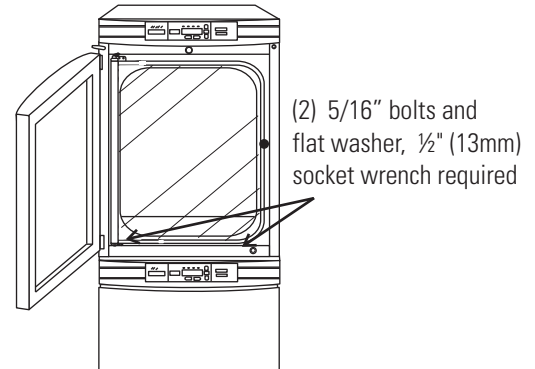

Figure 1-7. Align Slots and Bolts
5. Align the sides of the top unit and bottom unit. Slide the top unit forward until the slots in the base of the top unit align with the 5/16"-18 stacking bolts in the exterior top of the bottom unit (Figure 1-7).
8. From the unit front, secure the base of the top unit to the exterior top of the bottom unit by tightening the 5/16-18 stacking bolts using a ½" (13 mm) wrench or suitable tool. Refer to Figure 1-7.